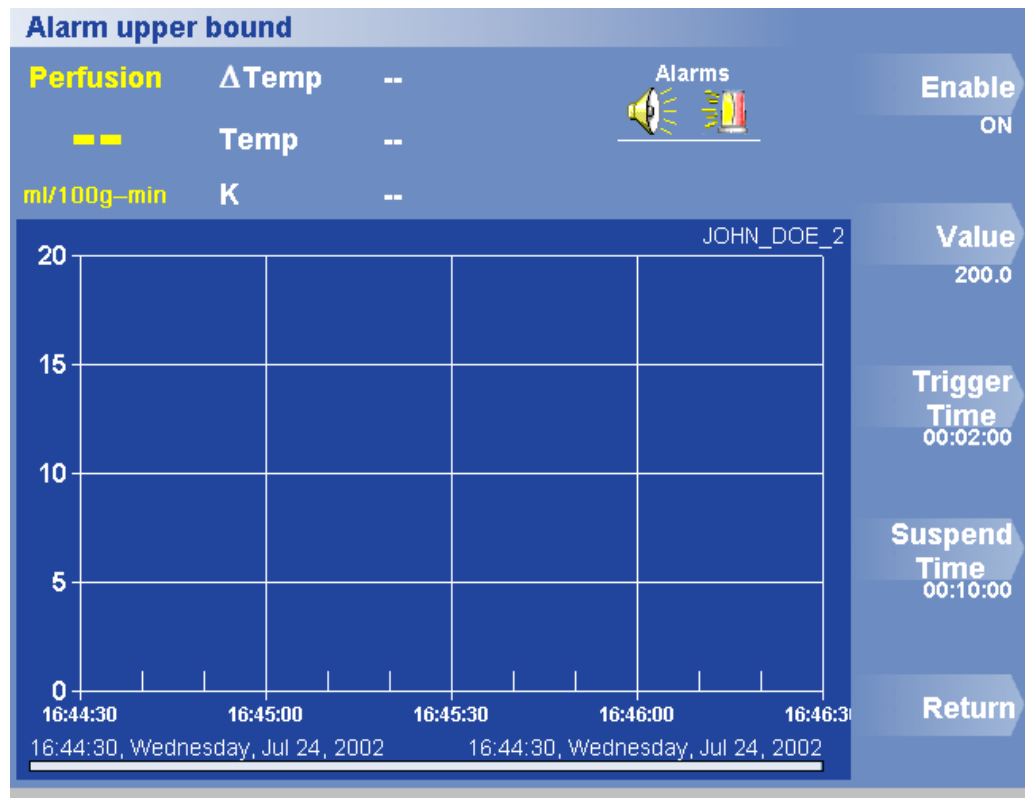

Figure 29. Alarm Upper Bound Menu
1. Press Options > Set Alarm > Upper Bound. The Alarm Upper Bound menu appears (Figure 29).